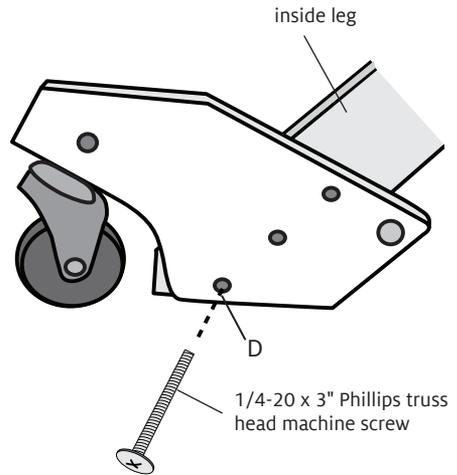

FIGURE 9: CASTER BLOCK AND INSIDE LEG
3. Set a caster block on the outer side of an inside leg, with the caster wheel toward the front and the floor (Figure 9). Line up hole [D] at the bottom of the block to hole [A] in the leg. Insert a 1/4-20 x 3" Phillips truss head machine screw through the caster block and the leg. Thread the machine screw into the barrel nut in the treadle support and tighten, using a slotted screwdriver to hold the barrel nut in position. Repeat with a second caster block and the other inside leg.